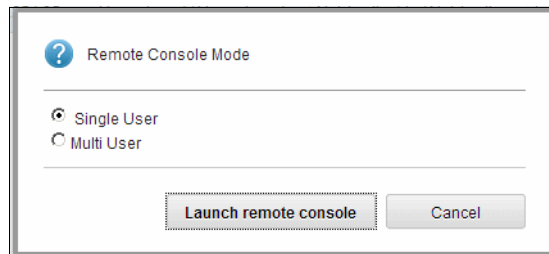

Figure 7-12 Single or multiple user console
2. Select either a **Single User** or **Multiple User** from the prompt. Click **Launch remote console**, as shown in Figure 7-12.